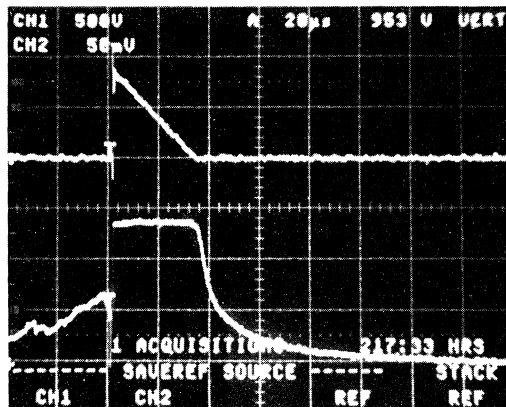

Figure 8. Current-Voltage Waveforms
The oscilloscope picture in Figure 8, shows the information obtained for the MUR8100E (similar die construction as the MUR4100E Series) in this test circuit conducting a peak current of one ampere at a breakdown voltage of 1300 volts, and using Equation (2) the energy absorbed by the MUR8100E is approximately 20 mjoules.